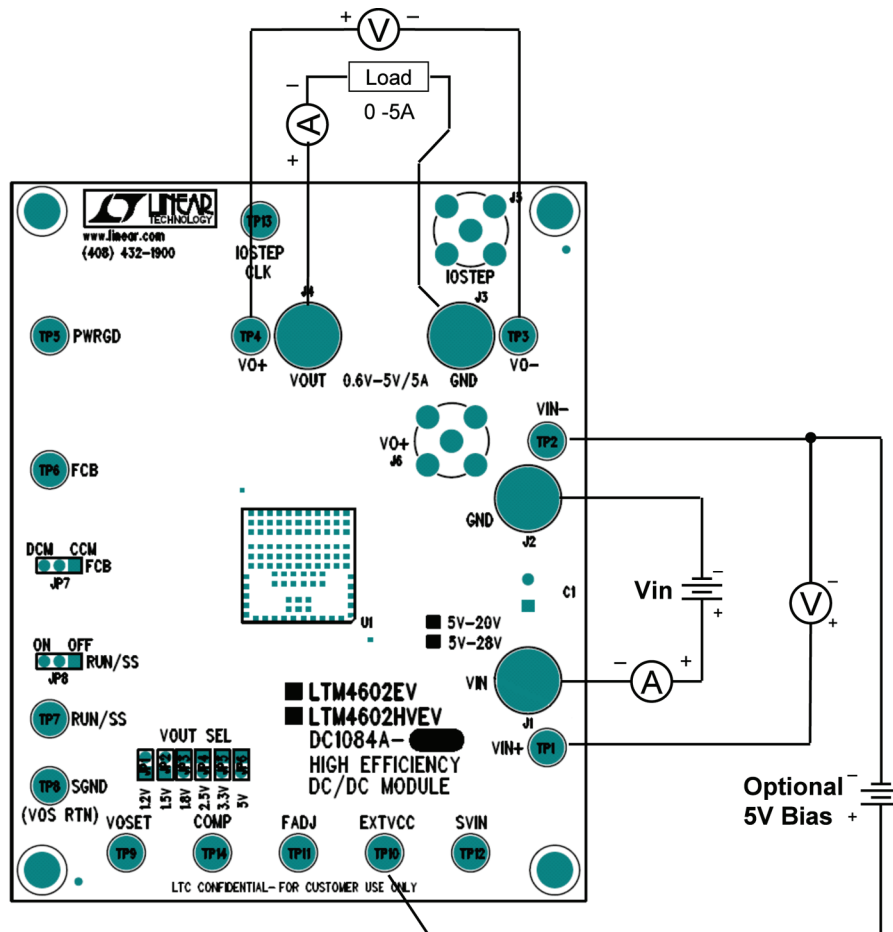

Figure 1. Test Setup of DC1084A-B (EXTVCC Bias Supply is Optional)
Demonstration circuit DC1084A-B is an easy way to evaluate the performance of the LTM4602HVEV. Please refer to Figure 1 for proper measurement equipment setup and follow the procedure below:
2. With power off, preset the load to 0A and V_{IN} supply to be less than 28V. Connect the input power supply, load, optional 5V bias supply and meters as shown in Figure 1. The optional 5V bias supply must be off anytime the supply to V_{IN} is turned off.